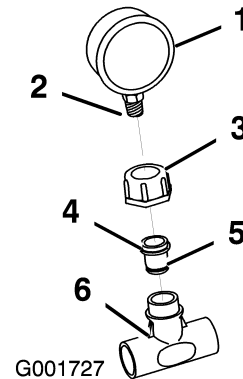

Figure 13
12. Wrap the pressure gauge threads with Teflon tape. Install the small plastic nut and reducer assembly to the pressure gauge. Use a hex wrench to screw the reducer assembly to the pressure gauge (Figure 13).
13. Install the pressure gauge assembly to the plastic tee (Figure 13).